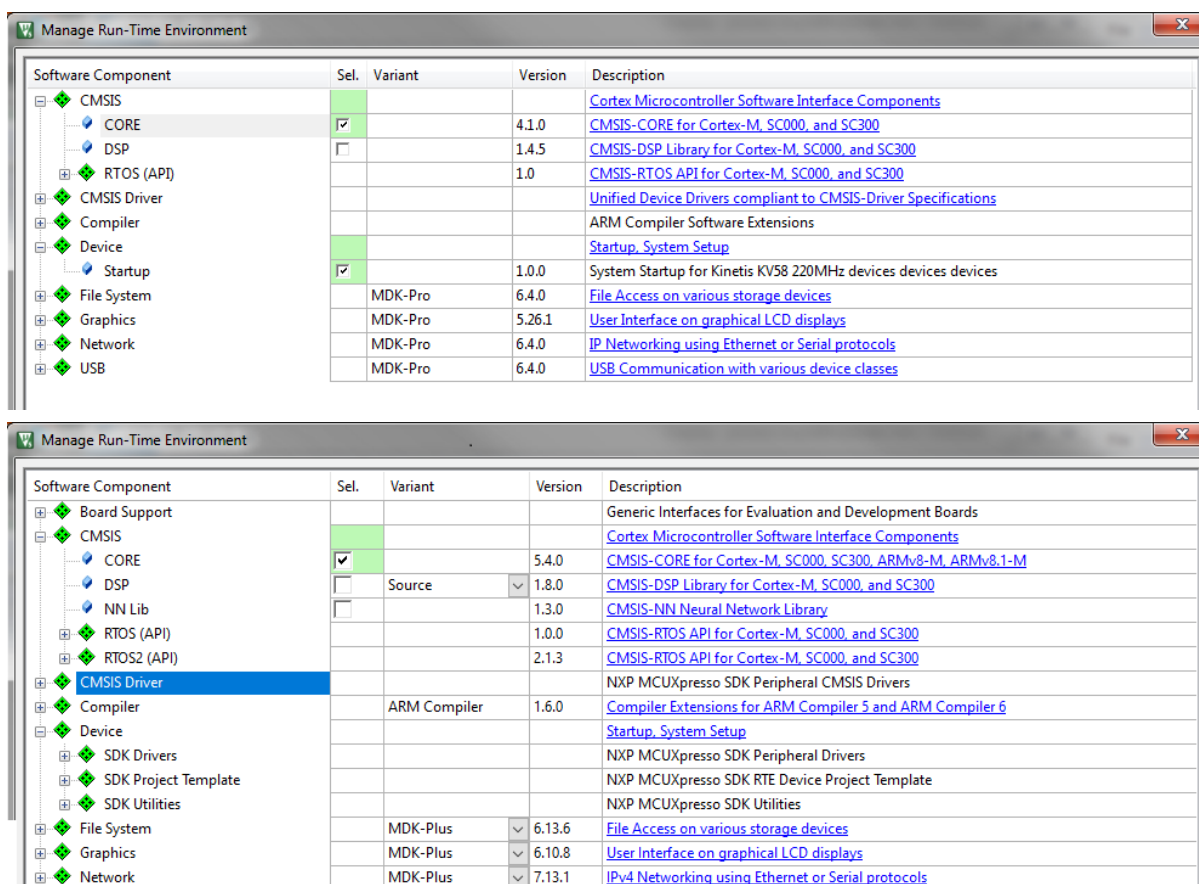

Figure 1-30. Manage Run-Time Environment dialog
8. In the next dialog, expand the Device node, and tick the box next to the Startup node. See Figure 1-30.